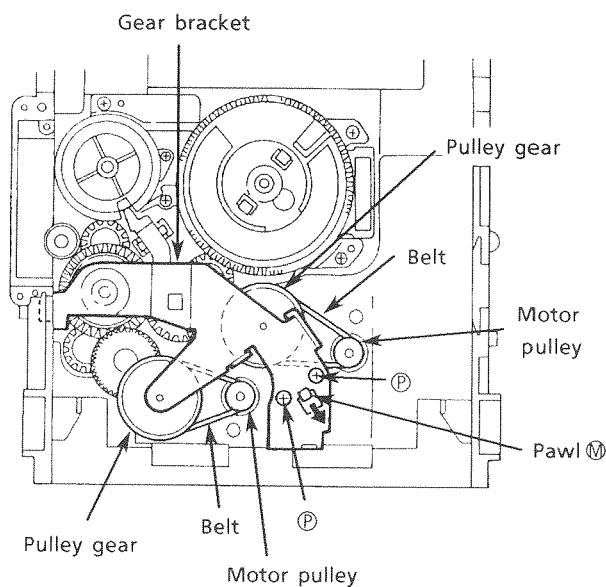

Fig. 44
(See Fig. 44.)
2. Press the pawl ② securing the gear bracket to the arrow in the figure to remove the gear bracket. (See Fig. 44.)
3. Remove the gear bracket from the chassis ass'y's ③ securing top of the gear bracket.
(See Fig.44.)